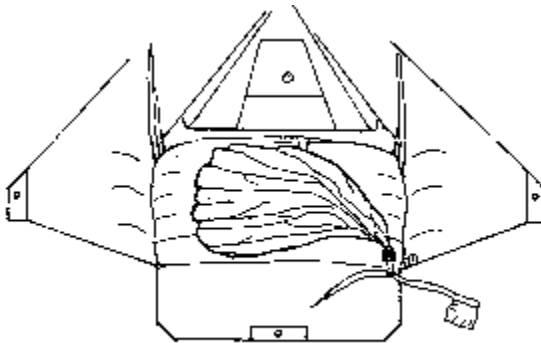

Figure 2-24
**Step 28** Loosely fold the pilot chute and lay it across the bag as shown in *Figure 2-24*. **IMPORTANT!! THE HANDLE AND PIN MUST EXIT THE CONTAINER AT THE LOWER RIGHT CORNER.**